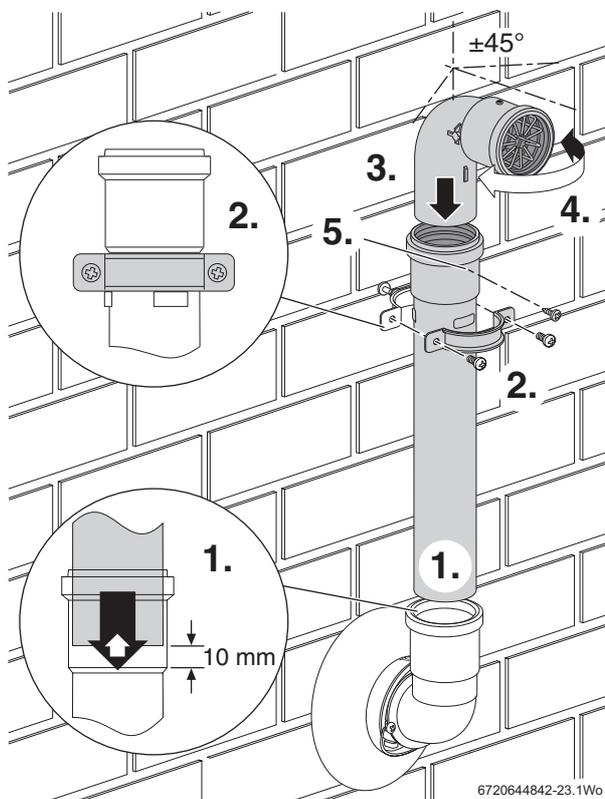

Fig. 40 Plume management installation
3. Mark the position for the wall clamp so that it coincides with the extension tube just below the top fitting (Refer to figure 40 point 2).
Refer to figure 40 plume management installation.